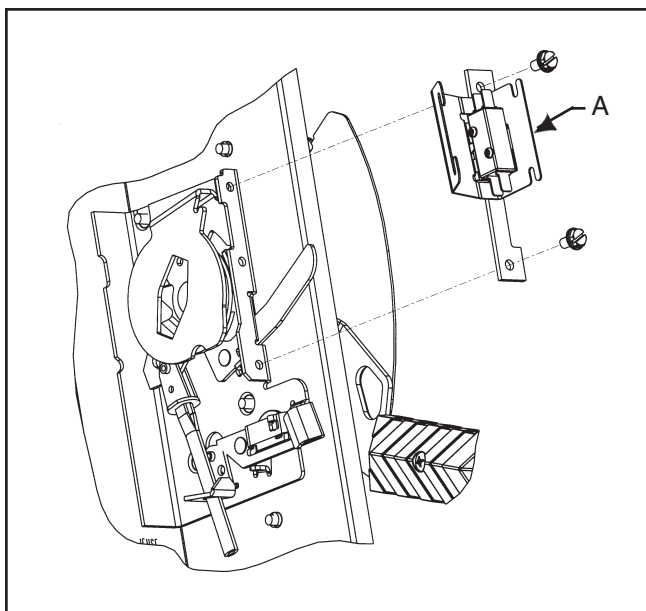

Fig. 1
3. Position the Auxiliary Switch unit on top of the mechanism housing as shown in Fig. 1.
6. Close and affix with interlocking tabs the auxiliary switch electrical shield, Item A, Fig.1, around auxiliary switch and wires to prevent accidental short to ground.